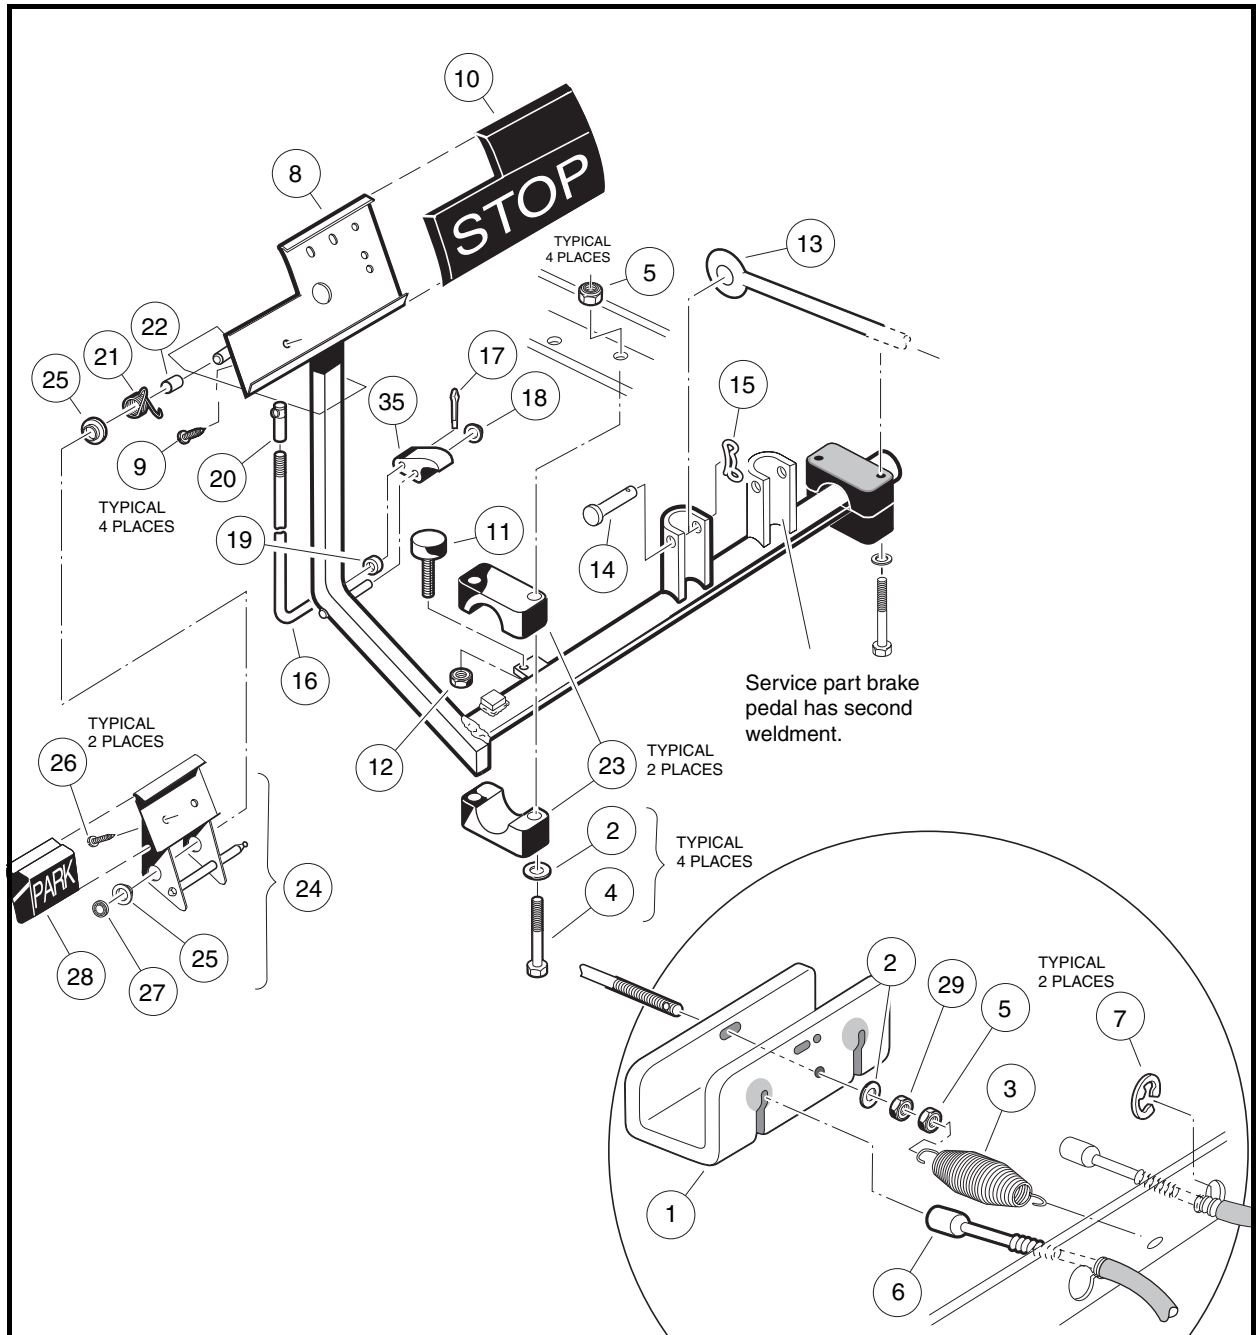
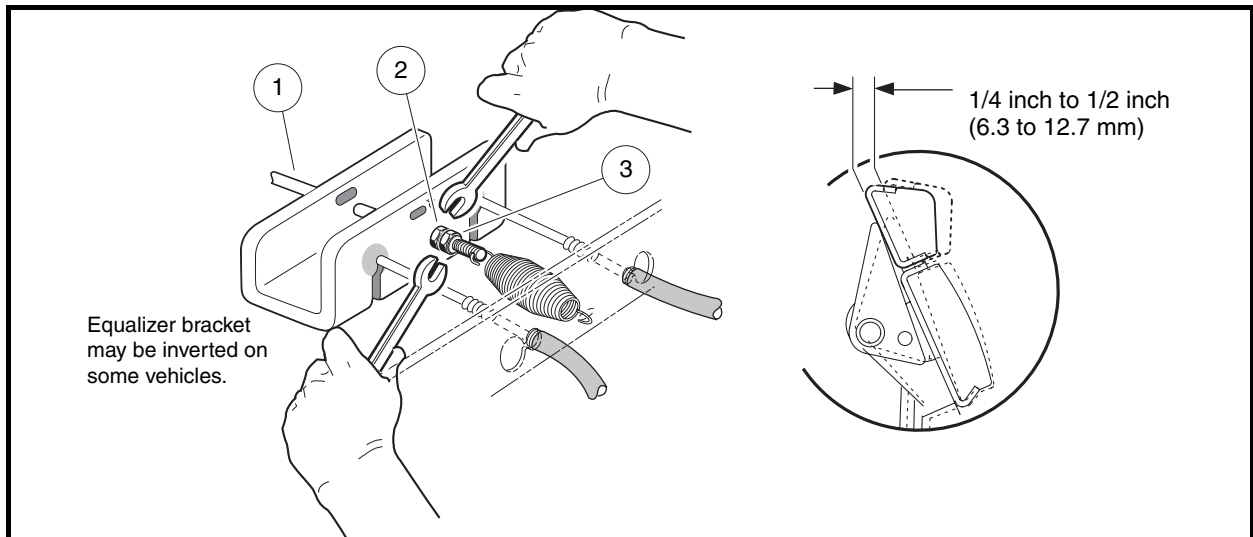

Figure 5-1 Brake and Park Brake Pedal Assembly
Figure 5-2 Brake Pedal Free-Play Adjustment
- 3.1. Disconnect the equalizer rod (13) from the pedal shaft by removing the clevis pin (14) and bow-tie pin (15) (**Figure 5-1, Page 5-2**).
1. From the top side of the floorboard, insert the brake pedal assembly through the opening in the floor, and install the brake pedal stop bumper (11) on the brake pedal assembly (**Figure 5-1, Page 5-2**). Do not tighten the jam nut (12) at this time.
2. Secure the equalizer rod (13) to the brake pedal assembly (8) with the clevis pin (14) and bow-tie pin (15) as shown.
3. Position and attach brake pedal assembly, mounting blocks (23) and washers (2) to vehicle frame as shown. Tighten the bolts and nuts to 113 in-lb (12.8 N·m).
4. Tighten the nut (2) on the equalizer rod (1) so that brake pedal free-play is 1/4 inch to 1/2 inch (6 mm to 13 mm) (**Figure 5-2, Page 5-3**). **See following NOTE.**
5. Tighten the jam nut (3) while holding the adjustment nut (2) in the correct position (**Figure 5-2, Page 5-3**).
- 3.1. To remove the park brake rod and pawl assembly (16 through 19 and 35), remove the push nut (18) and disconnect the ball joint sleeve (20) from the park brake pedal (24) (**Figure 5-1, Page 5-2**). **See following NOTE.**